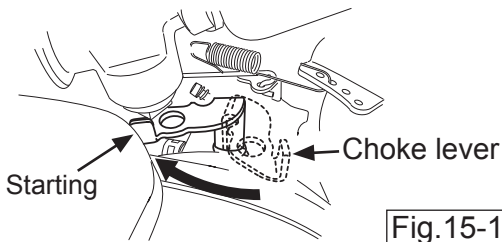

Fig.15-1
- 4 When it is cold or the engine does not start easily, close the choke lever. (Fig. 15-1,15-2,15-3)